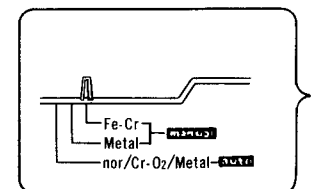

Fig. 29
- Set the tape selector located at the back of the set to Fe-Cr-manual position (fig. 29).